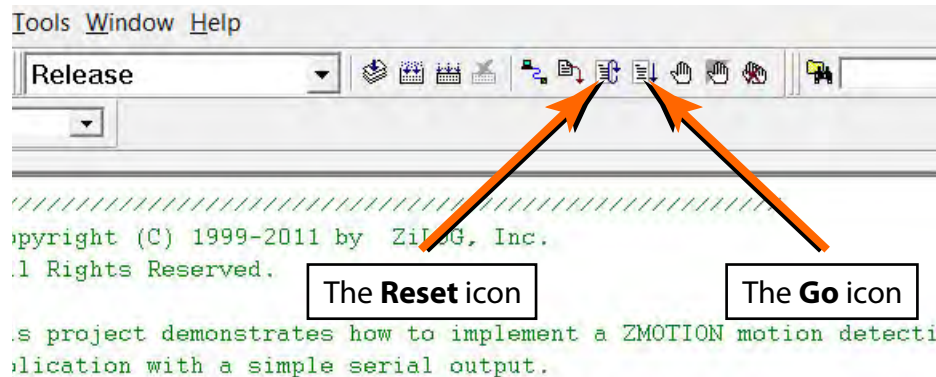

Figure 14. The Location of the Rest and Go Icons
6. Apply power to the Development Board by plugging in the USB cable and setting SW1 to the ON position. Next, click the **Reset** icon in ZDSII. Figure 14 indicates the location of both the **Reset** and **Go** icons in the ZDSII menu bar.